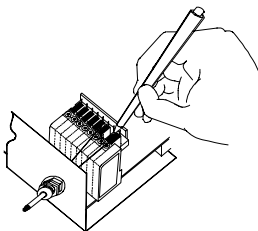

Figure 2.3 - System cable connection to the DP1000
- Using a device such as a screwdriver, push down on the lever directly above the clamp (see figure 2.3).